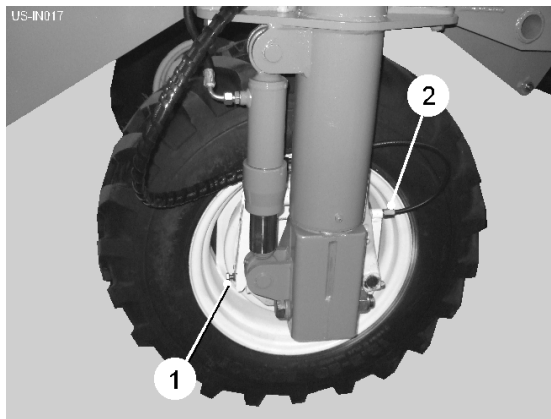
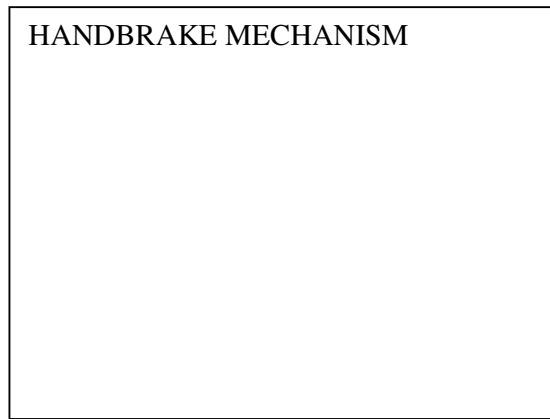

Fig 14
Fig 15
Connect the hydraulic brake hose to the tractor 'brake service outlet'. The machine brakes will operate when the tractor brakes are applied. Brake shoe wear can be taken up by adjusting the setscrews (item 1, fig 14).
To apply the handbrake, pull the lever (item 1, fig 15) in and out against the ratchet until the brake cables are fully tensioned. To remove the handbrake, pull the lever fully out to release the ratchet mechanism catch (item, 2, fig 15). Finally, push the lever back under the machine for transport. Handbrake cable length is set on the cable adjusters (item 2, fig 14).